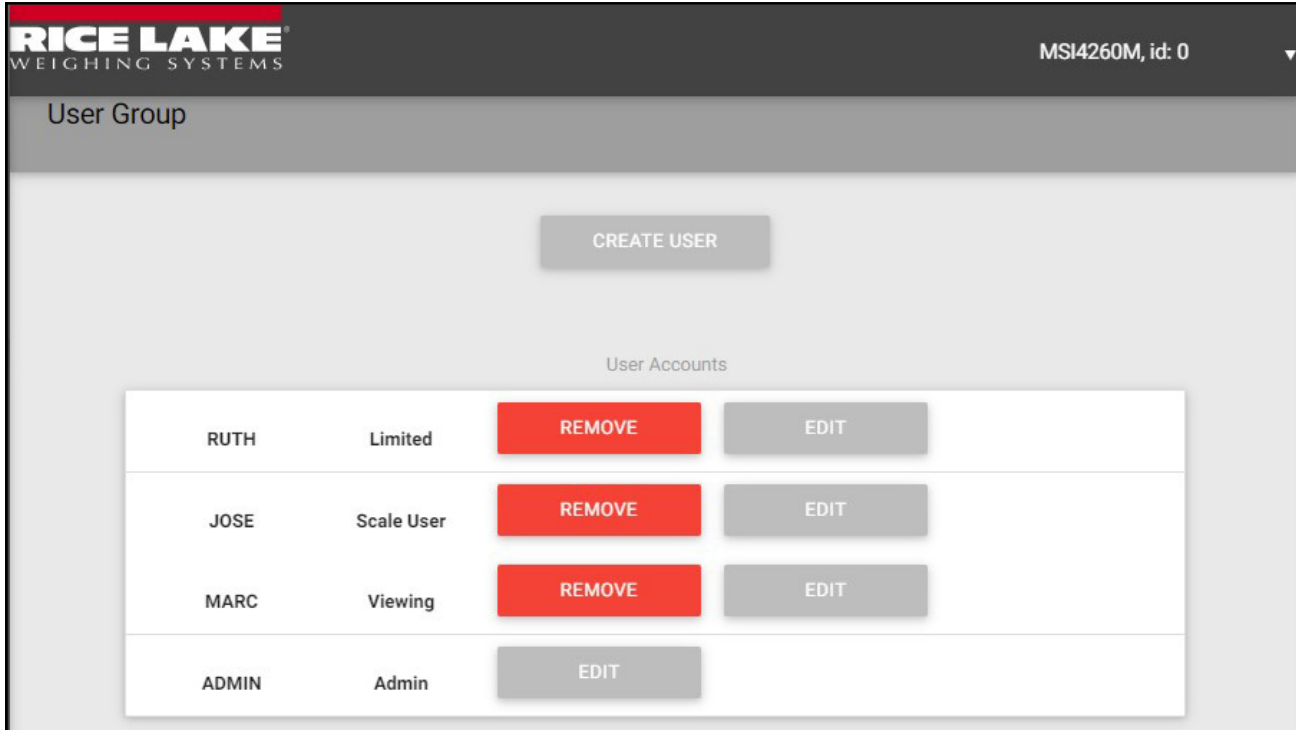

Figure 3-27. User Group Screen
2. Select **Edit** to the right of the user to be edited (Figure 3-27 on page 41).
2. Select **Remove** to the right of the user to be removed (Figure 3-27 on page 41). Confirmation box displays.